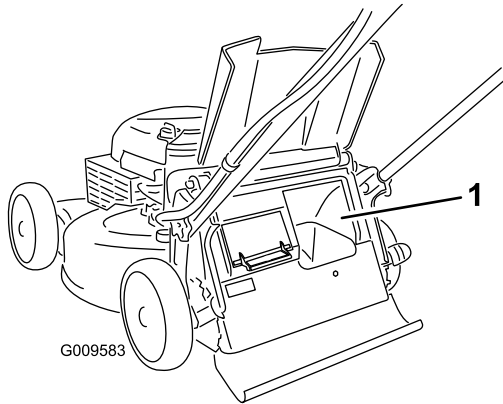

Figure 18
**Important:** For proper operation, shut off the engine, wait for all moving parts to stop, and then remove any grass clippings and debris from the bag-on-demand door and the surrounding opening (Figure 18) before you move the bag-on-demand lever from 1 position to another.